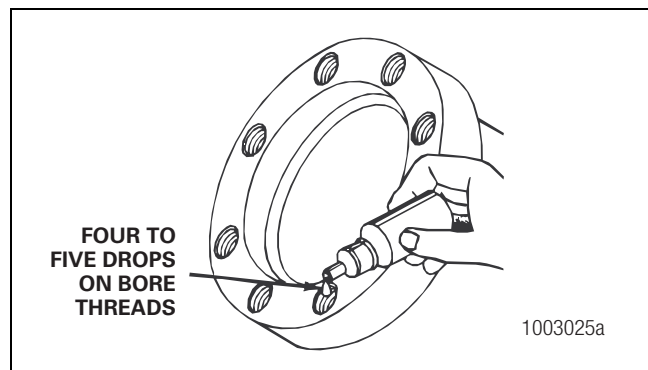

Figure 4.12
2. Apply four or five drops of Meritor liquid adhesive 2297-C-7049, Loctite[®] 638 or 680 liquid adhesive or equivalent inside each threaded hole or bore. Do not apply adhesive directly to the fastener threads. Figure 4.12.